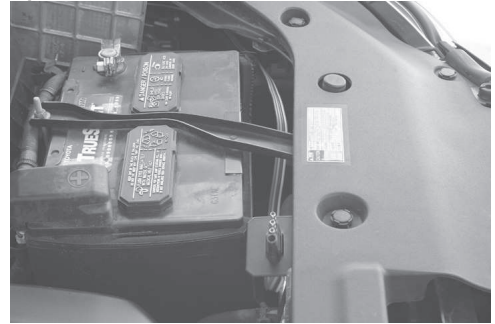

Figure 9
12. Route 4-Flat to area flat surface in engine compartment. Locate a suitable position to mount the 4-Flat bracket shown in **Figure 9**. Using the bracket as a template mark the two holes and drill two 3/32" holes and attach the bracket using the two remaining screws.